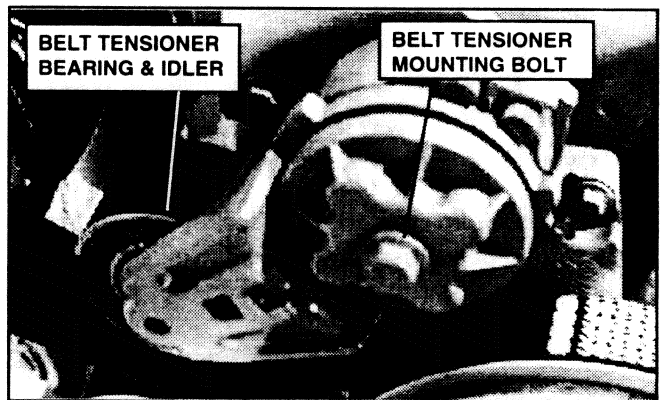

FIGURE 4.74
1. Inspect Belt tensioner bearing for wear, inspect idler for damage. Also check torque of mounting bolt. Proper torque value is 4kgf/m (32 ft lbs). See Figure 4.74.